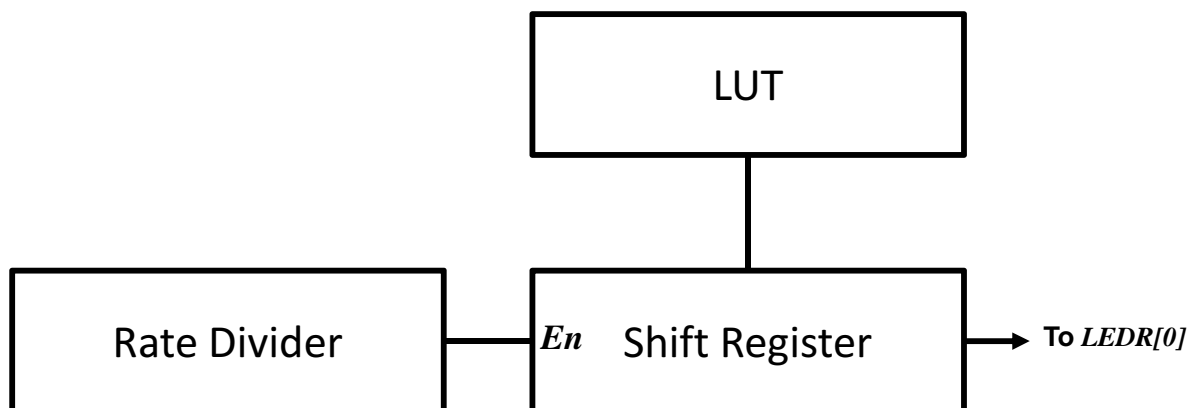

Figure 4: Block diagram of the Morse code circuit
A high-level block diagram of the circuit you are building is shown in Figure 4. Note that various details/connections are not shown there.
2. Design your circuit by first drawing a schematic of the circuit. Think about and work through your schematic to make sure that it will work according to your understanding. You can use Figure 4 as your starting point. You should include the schematic in your prelab. **(PRELAB)**